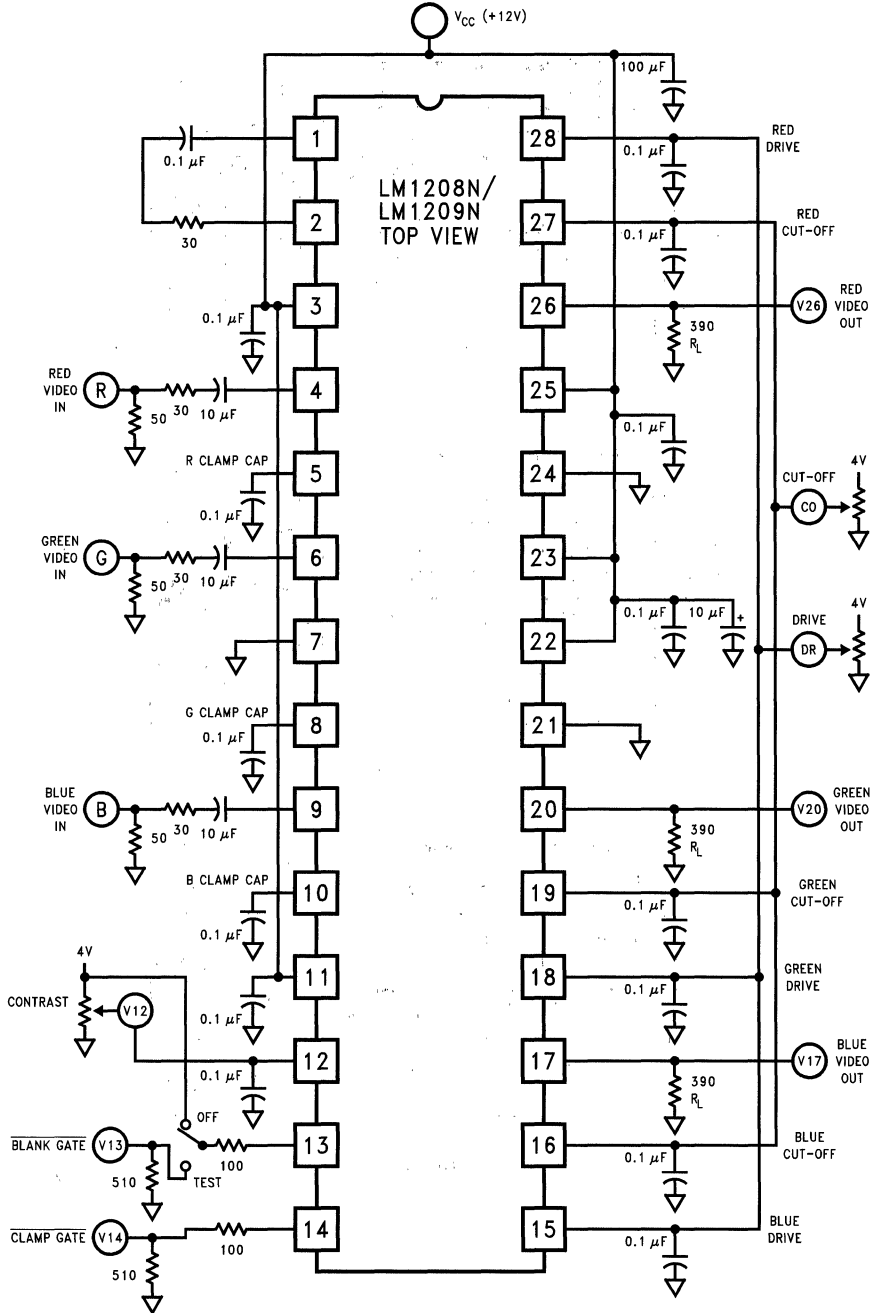

FIGURE 2. LM1208N/LM1209N DC Test Circuit
**Note 7:** The supply current specified is the quiescent current for  $V_{CC1}$  and  $V_{CC2}$  with  $R_L = \infty$ , see *Figure 2's* test circuit. The supply current for  $V_{CC2}$  (pin 23) also depends on the output load. With video output at 1V DC, the additional current through  $V_{CC2}$  is 8 mA for *Figure 2's* test circuit.